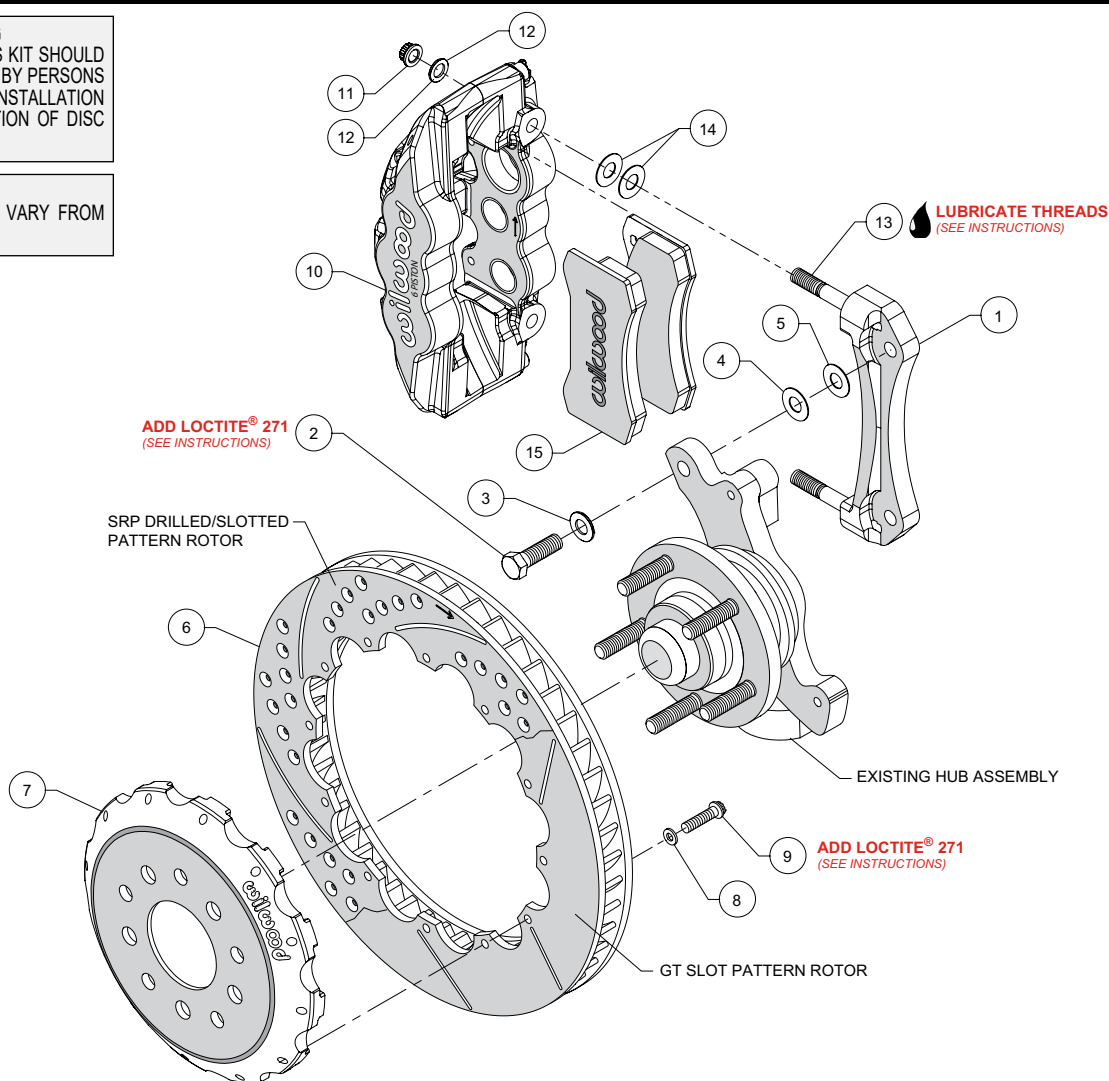
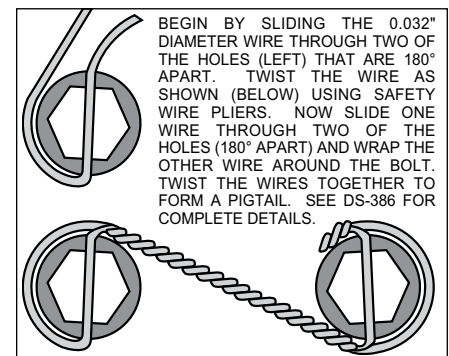

Figure 1. Typical Installation Configuration
Figure 4. Safety Wire Diagram
- The caliper mount bracket assembly (1) should be installed first with clean, dry threads on the mounting bolts. Install the bracket on the inboard side of the spindle by sliding bolt (2) through flat washer (3), and spindle ear from the outboard side of the spindle. Place two shim washers (5) between the bracket (1) and the spindle (see figure 1). The bracket must tighten squarely against the inboard side of the modified caliper mount bosses on the spindle body. Inspect for interference from casting irregularities, machining ridges, burrs, etc. Later, after the caliper, pad, and rotor alignment has been checked, and any necessary shims have been put in place, the mount bolts should be coated with red *Loctite*® 271 and torqued to 60 ft-lbs.
- With the larger I.D. side of the rotor (6) facing away from the hat (7), bolt the rotor (6) to the hat (7) through the backside of the rotor using washers (8) and bolts (9) provided in the configuration pictured in figure 1. Apply red *Loctite*® 271 to the bolt threads and torque to 155 **in-lb** using a criss-cross pattern. For an added measure of security, the bolts may be safety wired using standard 0.032 inch diameter stainless steel safety wire as shown in Figure 4. Please refer to Wilwood's data sheet DS-386 (available at www.wilwood.com/Pdf/DataSheets/ds386.pdf) for complete safety wire installation instructions.
- Lubricate caliper mounting studs (13) and nuts (11) with lightweight oil. Install two shims (14) over each stud (13) on the radial mount bracket. Slide the caliper (10) in place over the studs and rotors and install the washer (12) and lock nut (11) to hold the caliper in place.
- Remove the two pad retaining pins from the caliper (10) by carefully popping out the pin retaining clips and sliding out the pins. Insert the brake pads (15) into the caliper from the bottom, Figure 1. With the friction material facing the rotor, secure the brake pads in place with the pad retaining pins and clips. Reinstall the caliper onto the caliper mounting bracket and temporarily tighten the lock nuts. Check that the top of the brake pad is flush with the outside diameter of the rotor. If not, adjust by adding or subtracting shims (14) between the caliper and the bracket.
- Once all clearances have been checked, remove the wheel, caliper, hat, and rotor from the spindle and hub. Secure the caliper mounting bracket (1) to the spindle using red *Loctite*® 271. Torque the bolts to 60 ft-lbs. Reinstall the hat and rotor assembly and again use three lug nuts to hold it in place. Reinstall the caliper, torque the caliper nuts (11) to 30 ft-lbs.